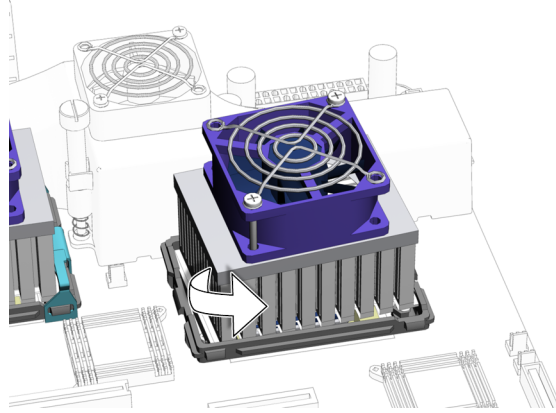

FIGURE 11-13 Rotating the CPU Fan and Heat Sink Assembly Counterclockwise
- a. If necessary, rotate the CPU fan and heat sink assembly counterclockwise (FIGURE 11-13).**